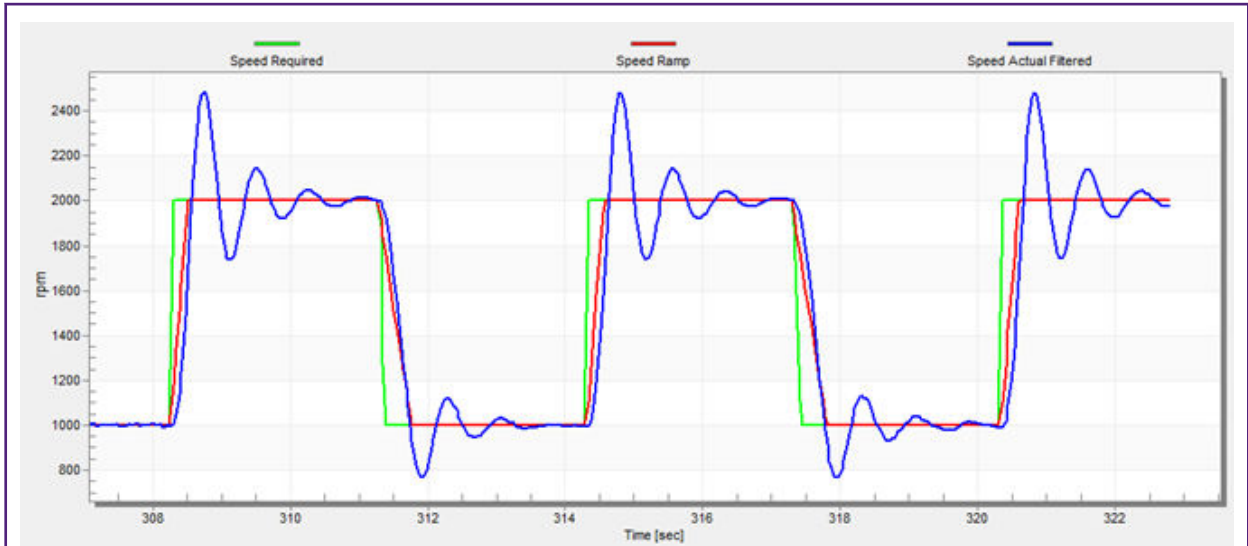

Figure 24. Speed controller response— $SL\_Kp$  value is low, speed actual filtered greatly overshoots
- The  $SL\_Kp$  value is low, the *Speed Actual Filtered* greatly overshoots, and the long settling time is not wanted (see Figure 24).